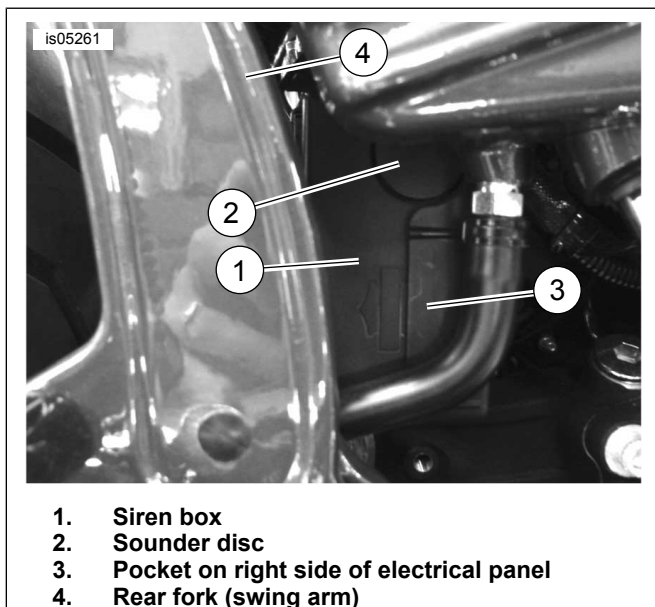

Figure 25. Siren Mounting (FXCW, FXCWC Models)
5. See Figure 25. Position the siren box (1) with the harness connector toward the rear and the sounder disc (2) facing out. Carefully snap the siren box into the pocket (3) on the right side of the electrical panel.